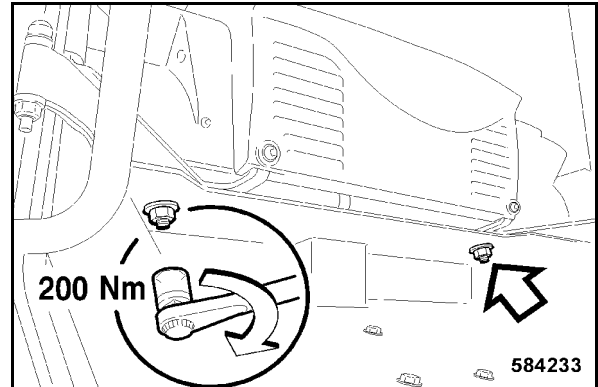

Fig. 214
- Turn nuts with washers onto both studs and tighten with 200 Nm (Fig. 214).